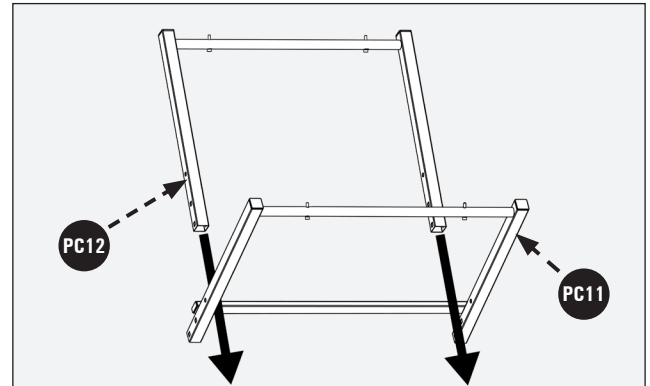

FIGURE 1
1. Assemble Stand Part 2 (PC12) through Stand Part 1 (PC11) that has the cross support as shown in Figure 1.